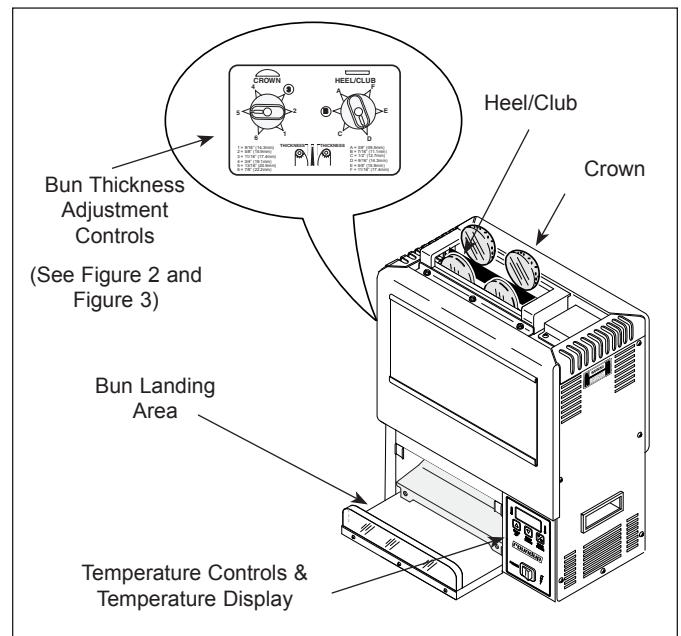

Figure 4. Rapid Toaster
NOTE: The Temperature Display (Figure 4) will flash "LO" until preset operating temperature is reached. When the toaster approaches the preset temperature, "USE" will appear in the Temperature Display and the unit is ready to toast buns.
3. Drop buns into toaster (Figure 4). The cut side of the heels and crowns must face each other (heel/club in front; crown in back).
4. Toasted product will drop into the bun landing area (Figure 4).